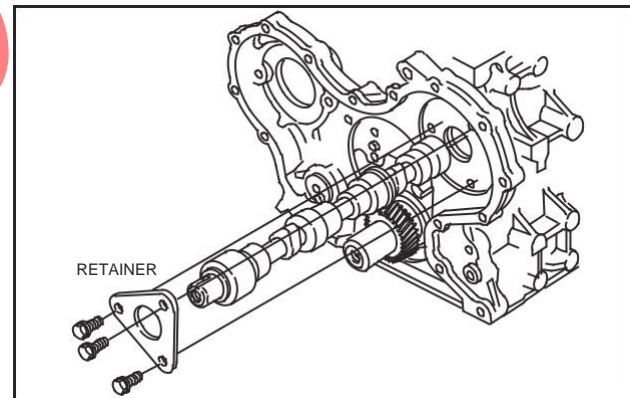

Fig. 12 – Installing Camshaft
3. Lubricate, then install camshaft in cylinder block, Fig. 12. Take care not to damage lobes or cam bearing.